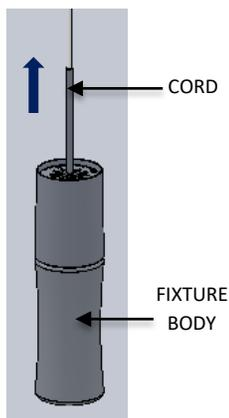
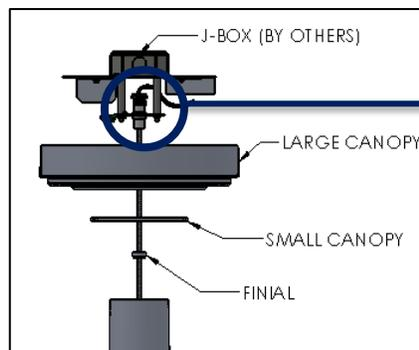
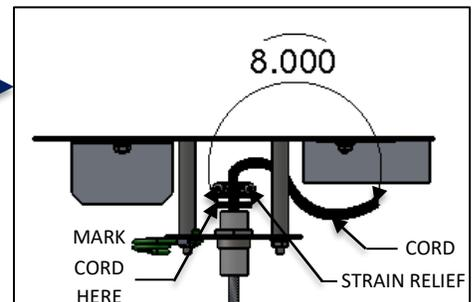

FIG. 10 – FIXTURE INSTALLATION
FIG. 11 -CORD INSTALLATION
FIG.12 – DETAIL SHOWING CORD TRIM INFORMATION
4. Raise the BAMBOO FIXTURE and pass the cord through CANOPY FINIAL, CANOPY AND ALL THREAD. ADJUST FIXTURE DROP TO DESIRED HEIGHT as shown below in FIG. 10. Mark cord with marker inside of DRIVER MOUNTING BRACKET as shown below in FIG. 11. Trim off excess cord leaving minimum of 8.00" past the top of the DRIVER MOUNTING BRACKET all thread as shown below in FIG. 12.